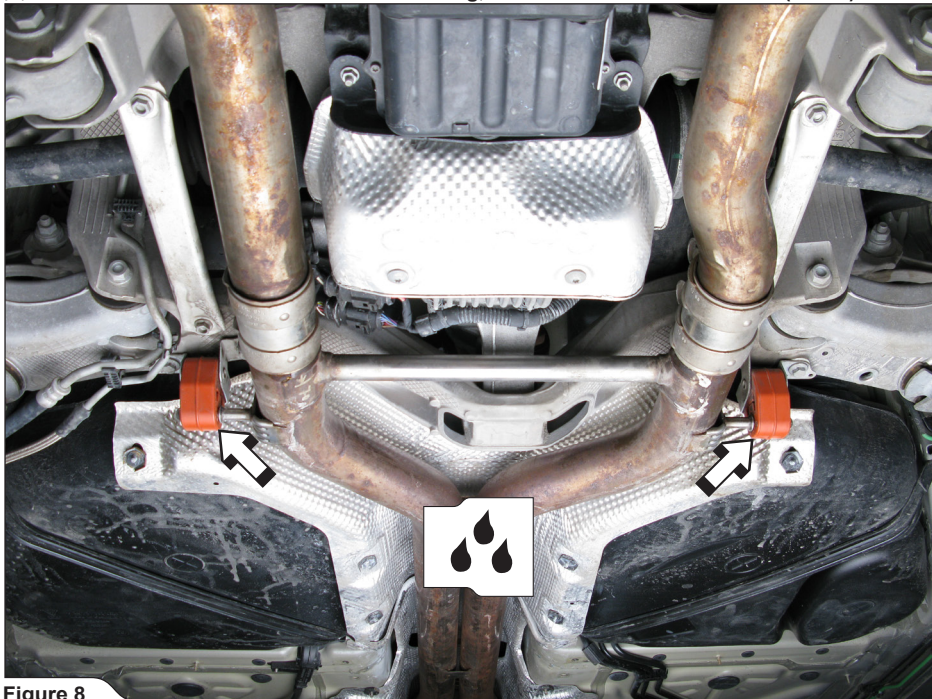

Figure 8
6. **For all vehicle models:** carefully pull the rubber brackets off the link pipes' brackets and remove the original link pipes off the vehicle (**Figure 8**).